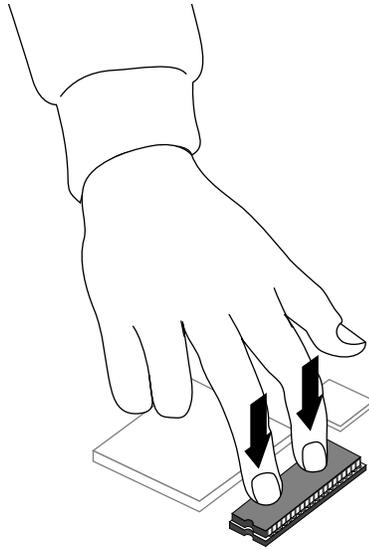

Figure 15 Pressing the PROM chip into the socket.
5. Once the pins are lined up, press down firmly on the top of the PROM chip until it is seated in the socket, as shown in Figure 15.